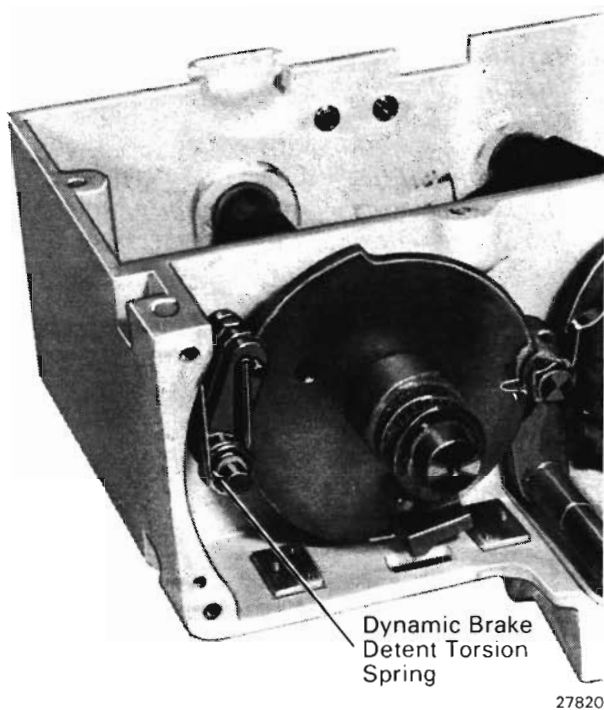

Fig.20 - Dynamic Brake Detent Spring Assembly
16. *Install dynamic brake detent torsion spring over shaft and position one end in the spring groove of roller pin, and the other end in the housing groove, Fig. 20.*